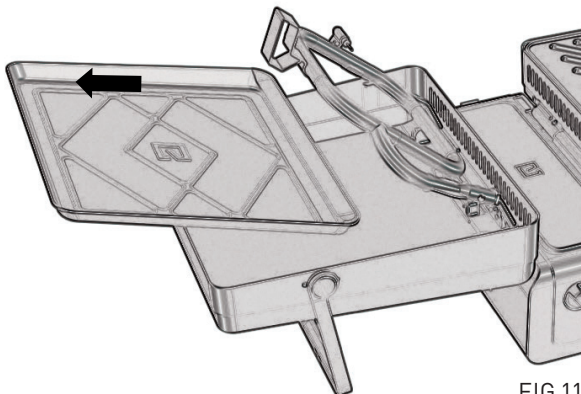

FIG.11
3. Remove grease tray at an angle pulling outwards from the clearance provided. (Fig. 11)